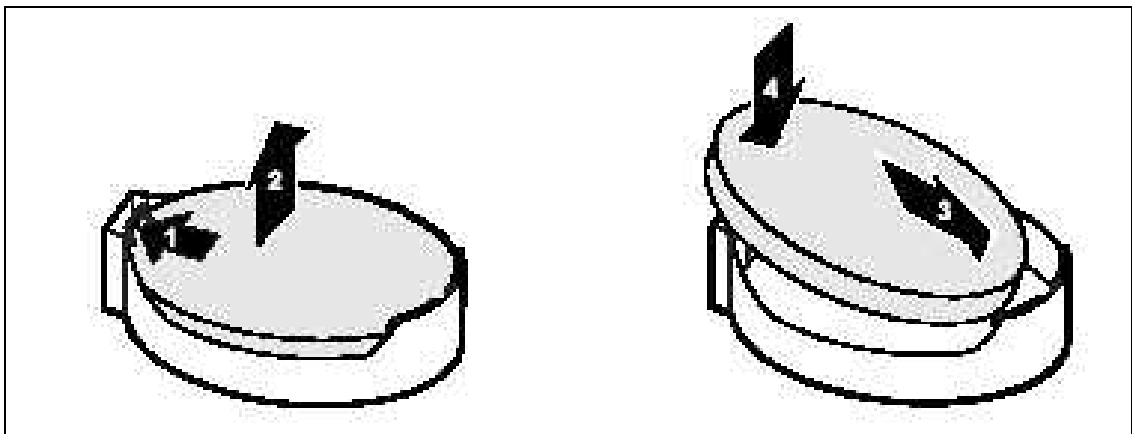

Fig. 46: Replacing the lithium battery
3. Press the locking lug in the direction of the arrow (1/Fig. 46 / p. 76); the battery jumps slightly out of the holder (2/Fig. 46 / p. 76).
5. Push the new lithium battery of the identical type into the holder (3/Fig. 46 / p. 76) and press it downward until it engages (4/Fig. 46 / p. 76).